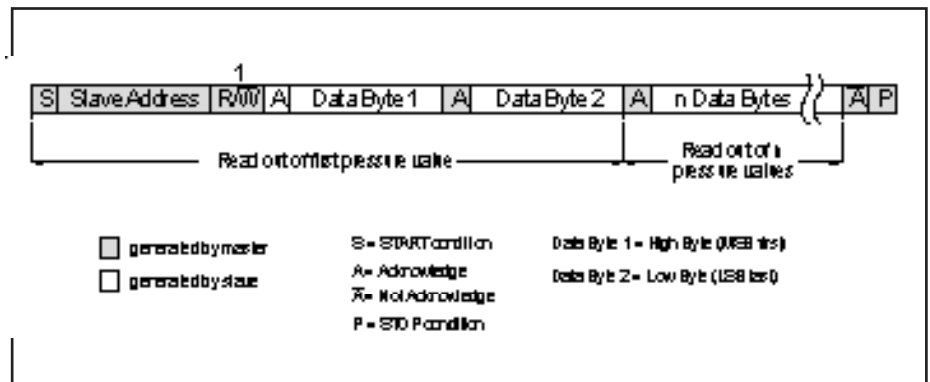
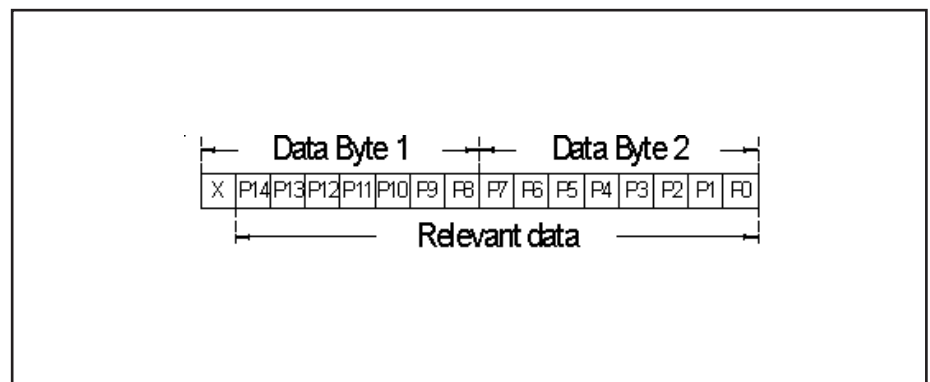

Fig. 9: Readout of digital pressure information using I2C bus protocol
Fig. 10: Two data bytes containing the pressure value as a 15 bit information
To read out a pressure value the master generates a START condition and sends the sensors slave address (either the hard coded address 0x1111000bin or the secondary factory programmed address) followed by a READ command (R/W=1) (see Fig. 9). At the moment of the first acknowledge (A) from the sensor, the master-transmitter becomes a master-receiver. The sensor starts to send two data bytes containing the current pressure value as a 15 bit information placed in the output registers of its ASIC (see Fig. 10). The master must acknowledge the reception of the first data byte. To terminate the pressure reading from the sensor the master sends a STOP condition. The sensor is also able to send pressure values "online". That means if the master does not send a STOP condition but an acknowledge after the third exchanged byte the sensor-slave will go on sending the last available pressure value when it is clocked.